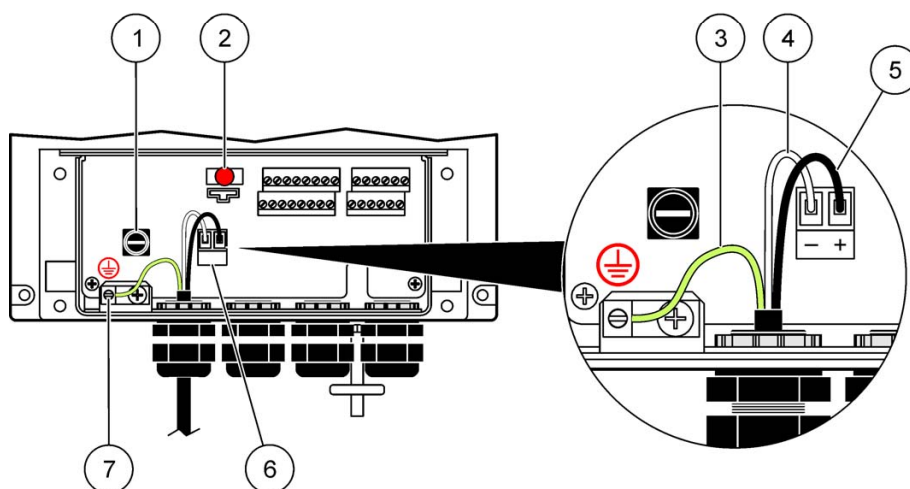
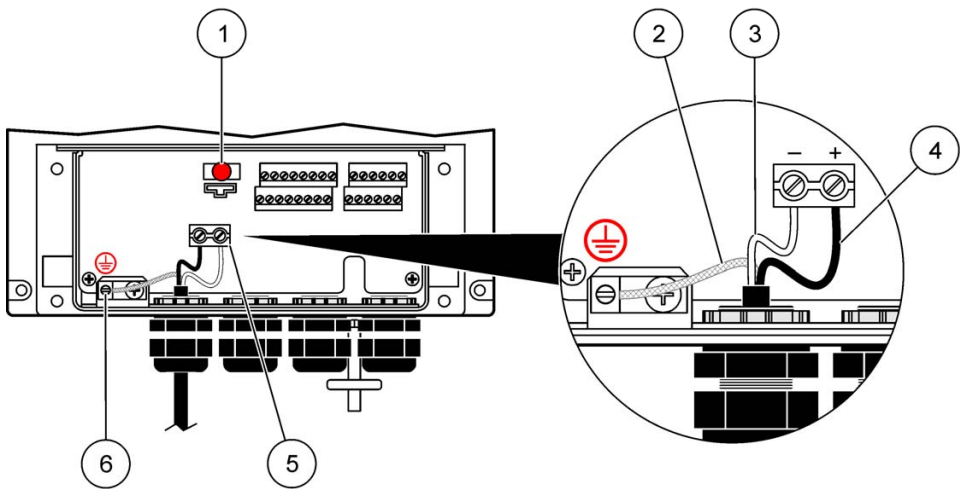

Figure 5 Wiring for AC power
Figure 6 Wiring for DC power
4. Install the ground wire to the protective earth grounding block (Figure 5). Make sure the ground wire is securely connected.
4. Install the ground wire or cable braid to the protective earth grounding block (Figure 6, item 2 and item 6). Make sure the ground wire is securely connected.
- 3. Make sure that the ground wire is connected to the protective earth grounding block (Figure 5 on page 11 or Figure 6 on page 12).
3. Make sure that the ground wire is connected to the protective earth grounding block (Figure 5 on page 11 or Figure 6 on page 12).